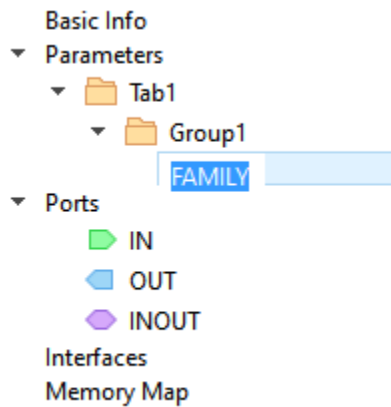

Figure 3.16. Rename a Parameter
- Double-click **NewParam1** to rename the parameter (Figure 3.16). The parameter name is also used as the unique ID of the parameter setting.